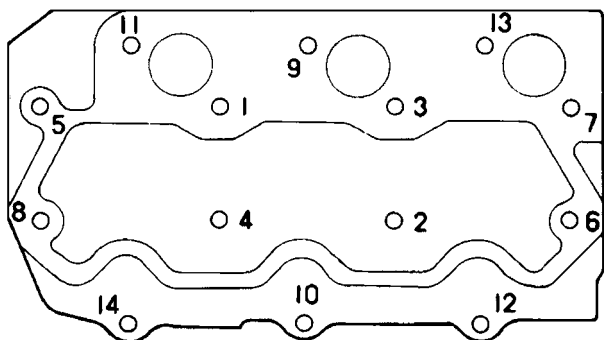

Figure 28
2. Using the sequence in Figure 28, torque the head bolts to 48 to 51 Nm.